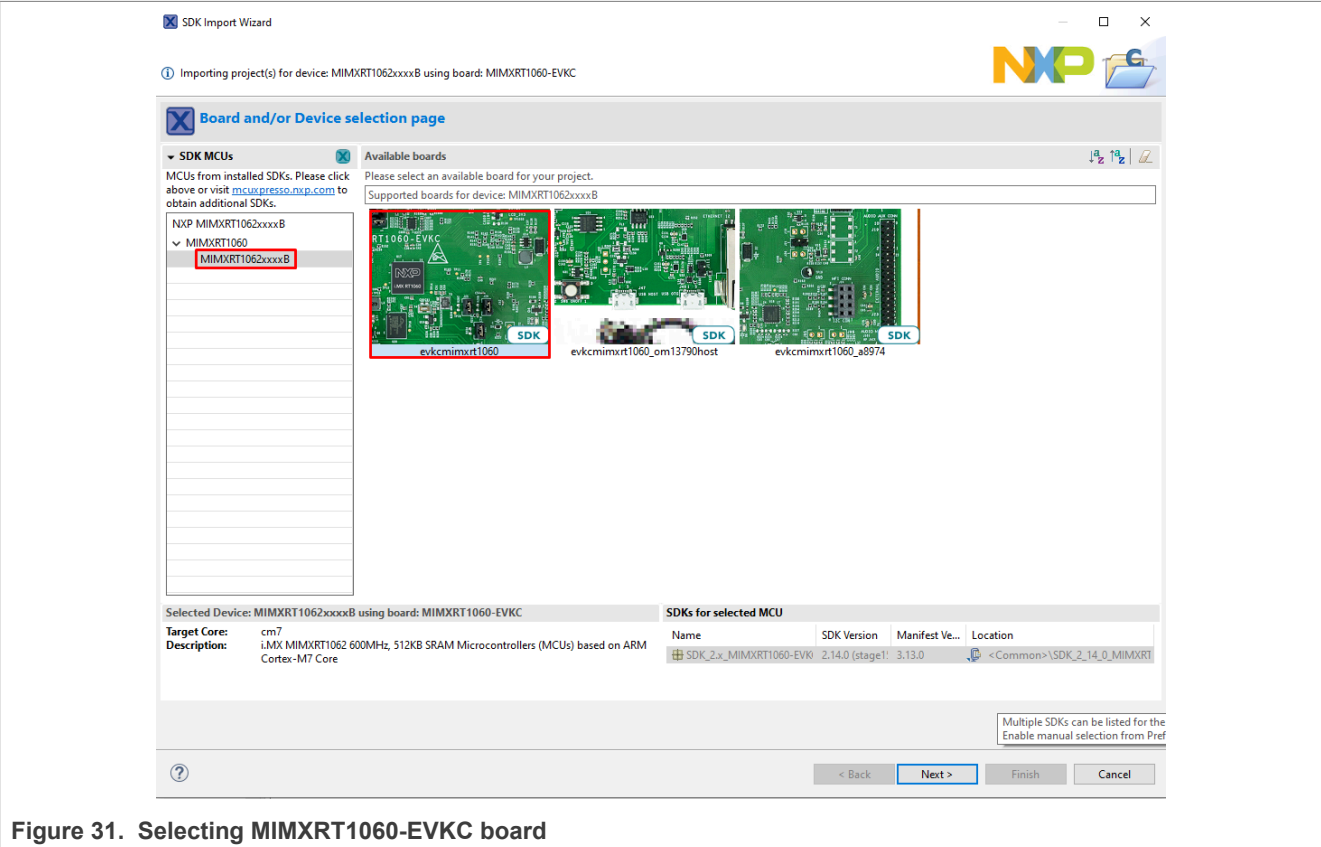

Figure 31. Selecting MIMXRT1060-EVKC board
3. In the window that appears, expand the **MIMXRT1060** folder and select **MIMXRT1062xxxxB**. Then, select **evkcmimxrt1060** and click **Next**, as shown in Figure 31.